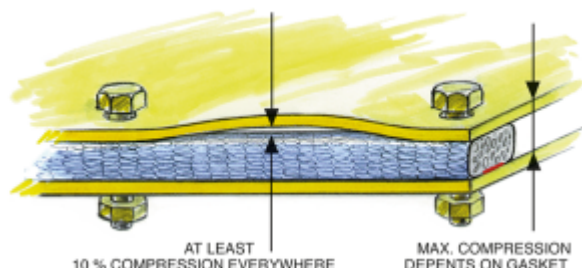

Figure 24.1: Note that the pressing force on the panels of the housing is not too large
- **LEVEL III A** Seams (fig. 24.1) **26 / 32**